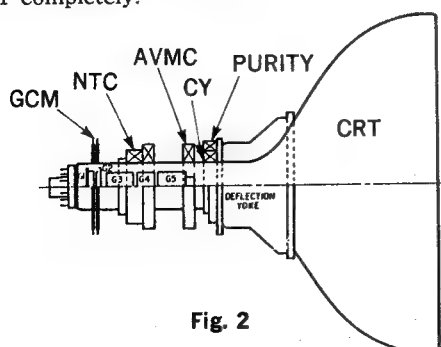
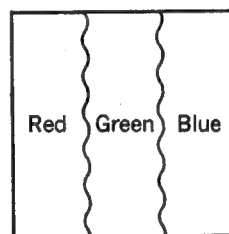

Fig. 2
Fig. 3
- (3) Confirm that the neck assembly is installed as shown in the Fig. 2.
- (4) Select the PURITY key in the adjustment mode.
- (5) Display the cursor on the center of the screen and turn on the degauss switch of the remote controller.
- (6) Set to green only using the R,G,B keys of the remote controller, and adjust with the (◀, ▶) keys so that green is in the center of the screen. (Fig. 3)